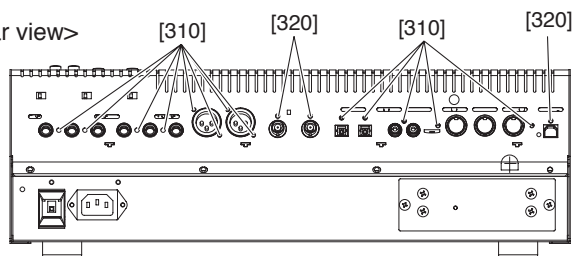

Fig. 3 (図3)
10-2 Remove the three (3) screws marked [300], the thirteen (13) screws marked [310] and the three (3) screws marked [320]. The ADA circuit board can then be removed. (Fig. 3, Photo 10)
- 11-1 Remove the twenty-nine (29) hexagonal nuts marked [280] from the control panel side. (Photo 11)
10-2 [300] のネジ 3 本と [310] のネジ 13 本、[320] のネジ 3 本を外して、ADA シートを外します。(図 3、写真 10)